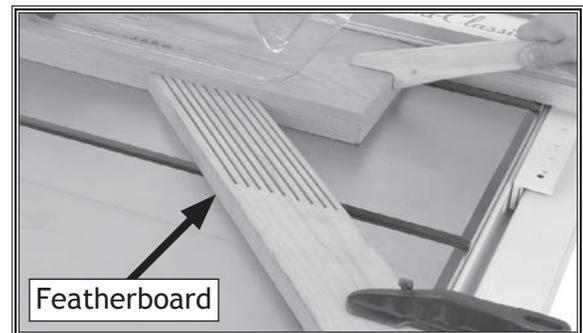

Figure 60. Typical ripping operation.
8. Set up safety devices such as featherboards (see **Figure 60**) or other anti-kickback devices, making sure no safety devices are contacting blade.